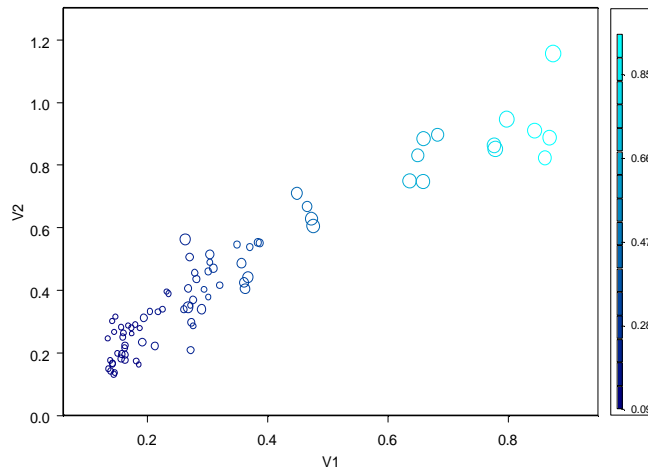

Figure 3.33: *Bubble color plot of the sensors data.*
- Now click the **Color Scale Legend** button  on the **Graph** toolbar to add a legend relating the V4 value to the color of each point. (You can modify symbol size and color ranges on the **Vary Symbols** page of the **Line/Scatter Plot** dialog.) The resulting plot is shown in Figure 3.33.